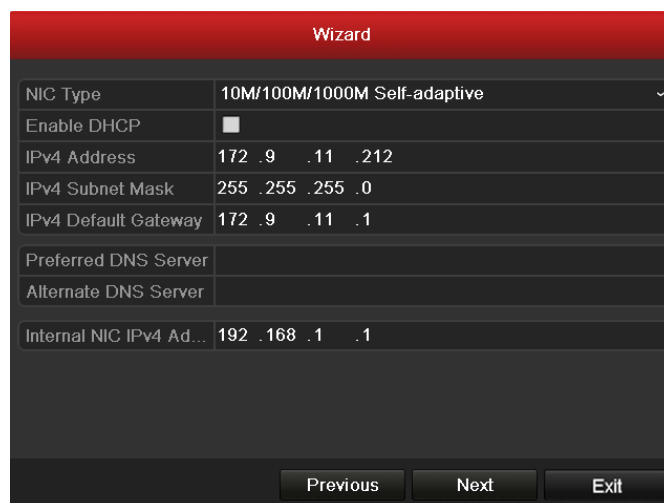

Figure 2. 5 Date and Time Settings
- After the time settings, click **Next** button which takes you back to the Network Setup Wizard window, as shown in Figure 2. 6.